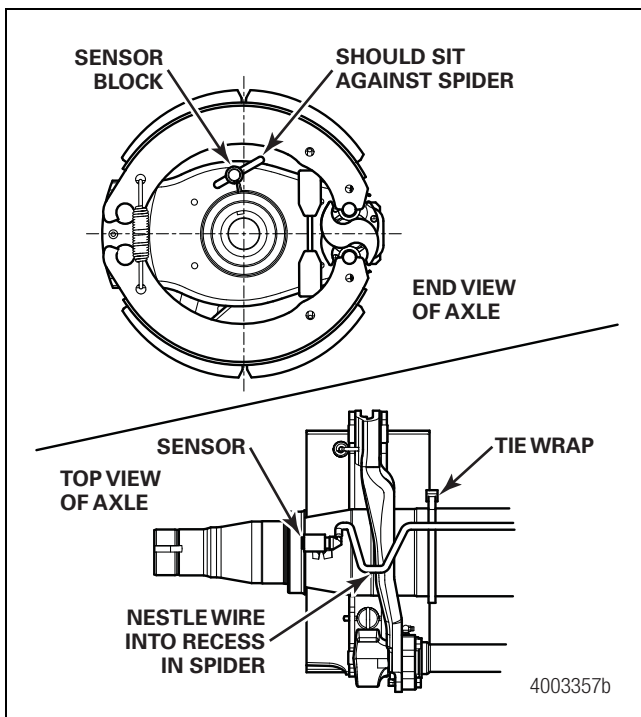

Figure 12.12
2. Route the ABS wires on TN and TQ model axles equipped with cam brakes without an ABS spider hole as follows. Figure 12.12.